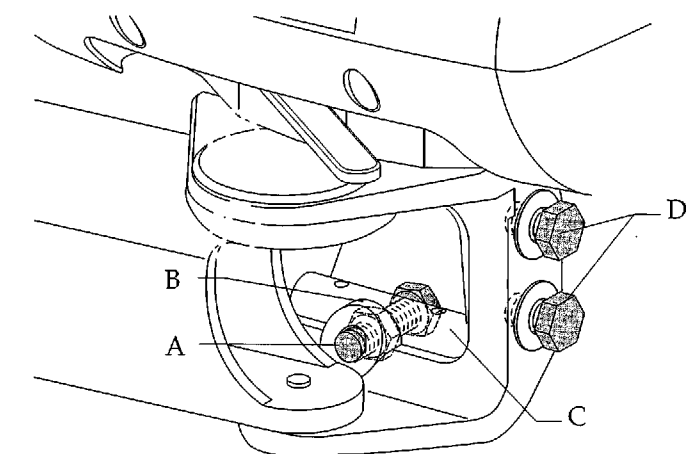

Figure 61. Leveling the support system side modules. (A) leveling bolt; (B) locking nut; (C) leveling bar; (D) mounting bolts
1. Loosen the four mounting bolts on the support link (see Figure 61).